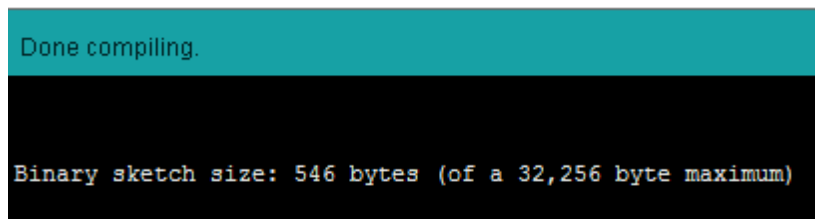

Figure 1.5: Successful compilation message
7. If compiled successfully, you should see a message in the console window as shown below (Figure 1.5).